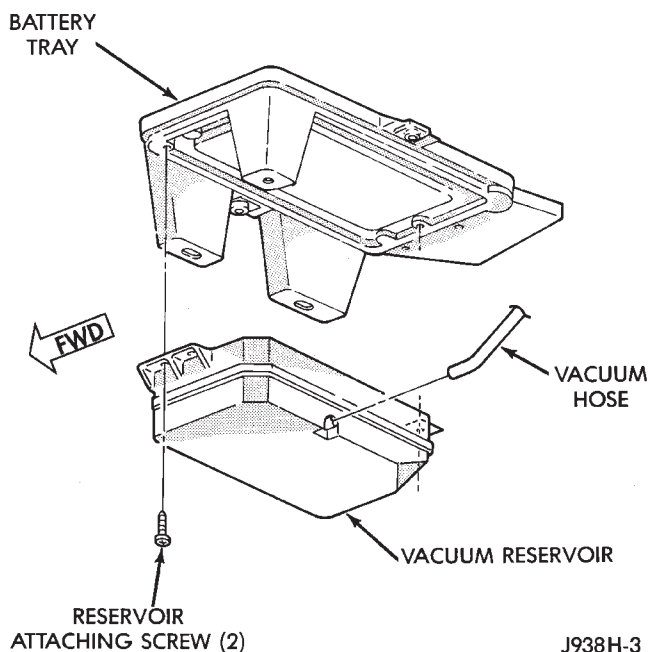

Fig. 8 Vacuum Reservoir
(1) Disconnect both battery cables at battery (negative cable first).
(2) Remove battery holddowns.
(3) Remove battery from battery tray.
(4) Remove 5 bolts securing battery tray.
(5) Pull up battery tray and remove vacuum hose from reservoir (Fig. 8).
(6) Remove 2 screws holding reservoir to battery tray.